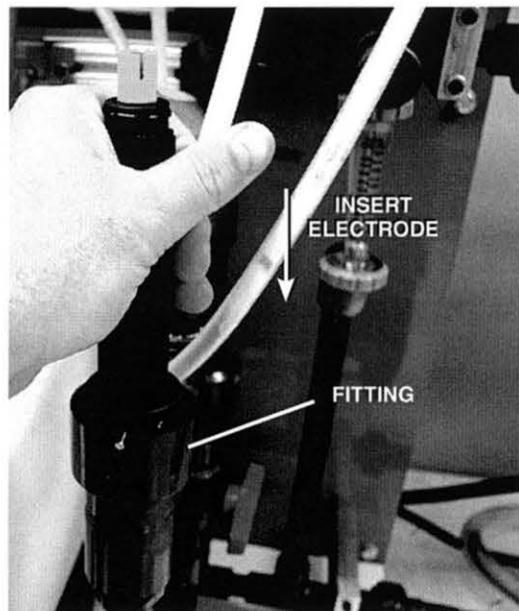

Figure 51. Insert Electrode Housing into Fitting
- 4. Insert the electrode housing into the open fitting, as shown in figure 51. Make sure the studs on the housing fit into the slots in the fitting and push the electrode housing down until it is fully seated in the fitting.